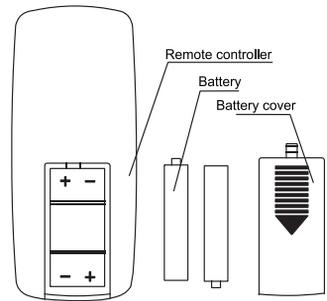

Fig.10 Battery Compartment
- (1) Slide off the battery compartment cover located at the back of the remote.
- (2) Insert the batteries, and make sure the batteries are placed as shown in **Fig.10**.
- (3) Slide back the battery cover.